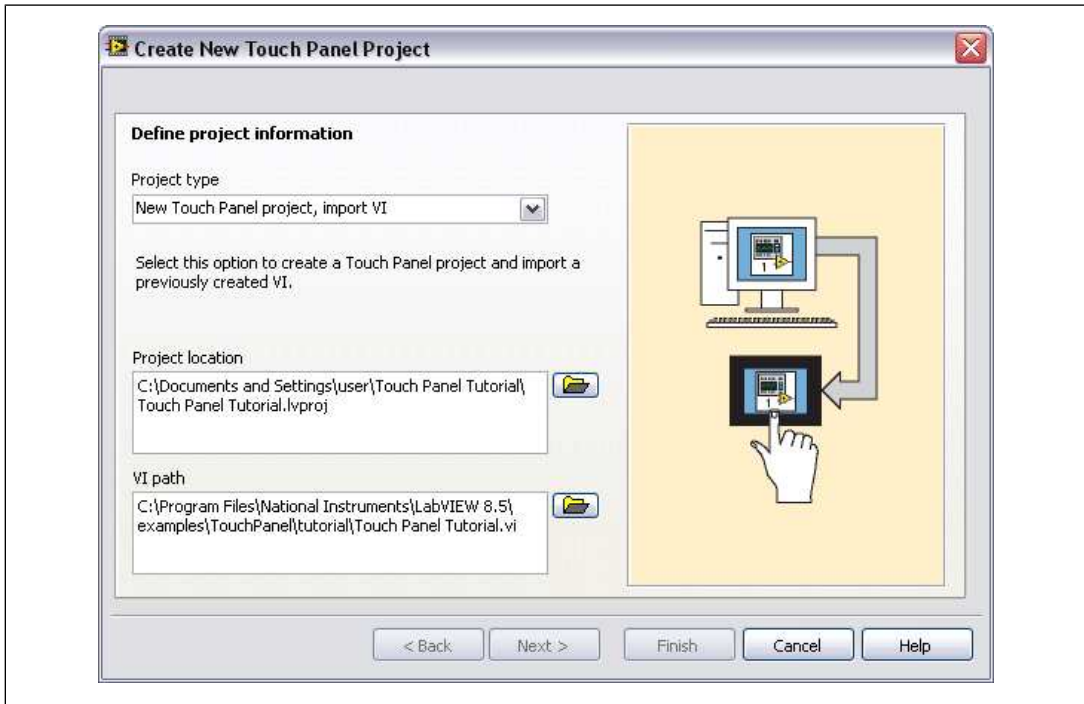

Figure 11. Defining the Project Information
2. Define the project information, as shown in Figure 11.